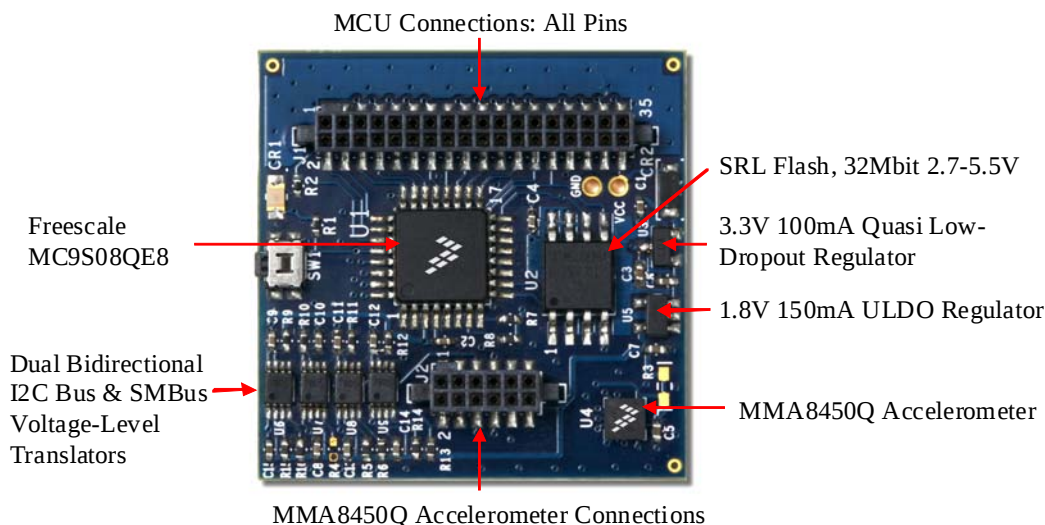

Figure 5. MMA8450Q Sensor Tool Box Demo Board
The following are some important considerations for board layout of the MMA845xQ accelerometer to ensure the best performance. The MMA8450Q has a very tight voltage input tolerance which may call for an extra voltage regulator for some systems. Level translators may be required if the MCU/processor is operating at a higher voltage. Bypass capacitors are recommended on the input voltage pins to ensure a clean signal to the sensor for optimal noise performance. Figure 5, is Freescale's MMA8450Q Sensor Toolbox Demo Board. This is a four (4) layer board. The board was designed to be able to access every pin on both the MCU and on the accelerometer for quick debug. The board has 32Mbit Flash which can be used for data logging and to perform algorithm analysis. The board has an LED and a switch for general purpose functions and a resistor, "R3", that can be cut to measure current drain from the accelerometer. This board was designed as small as possible so that it would be non invasive when mounted on other boards for different applications. The board can plug into an interface board to the PC or to a battery board. The flat back of the board is great for mounting the board with the battery pack onto moving objects to log data. The flat back also allows the board to be easily mounted into other designs. All the accelerometer pins are accessible through the board, bypassing the MC9S08QE8 microcontroller, if another external processor/MCU will be used. For use of the board as a demo board please visit www.freescale.com/sensortoolbox. The part number of the board is LFSTBEB8450. The software is available on the web site at the link.